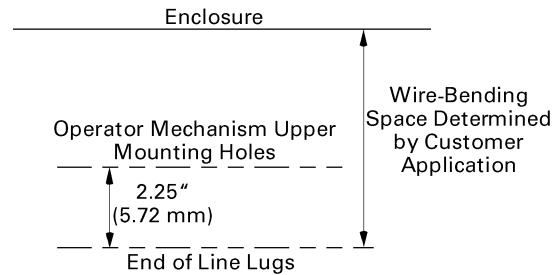

Figure 3. Wire-bending space between the breaker line lugs and the enclosure end wall.
2. The required wire-bending space between the breaker line lugs and the enclosure end wall is shown in Figure 3. Use this to determine the operating mechanism mounting location.